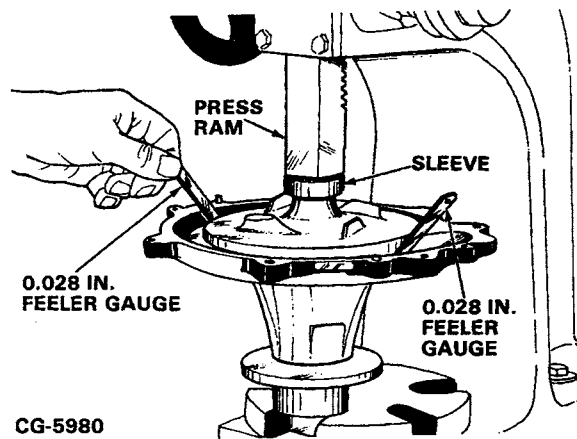

Figure 10.15. Press on Impeller and Check Impeller to Housing Clearance
22. Press the impeller onto the shaft supported on the front end as shown in Figure 10.15.
- a. With the feeler gauge in place, press the impeller until the feeler gauges are snug. Refer to Figure 10.15.